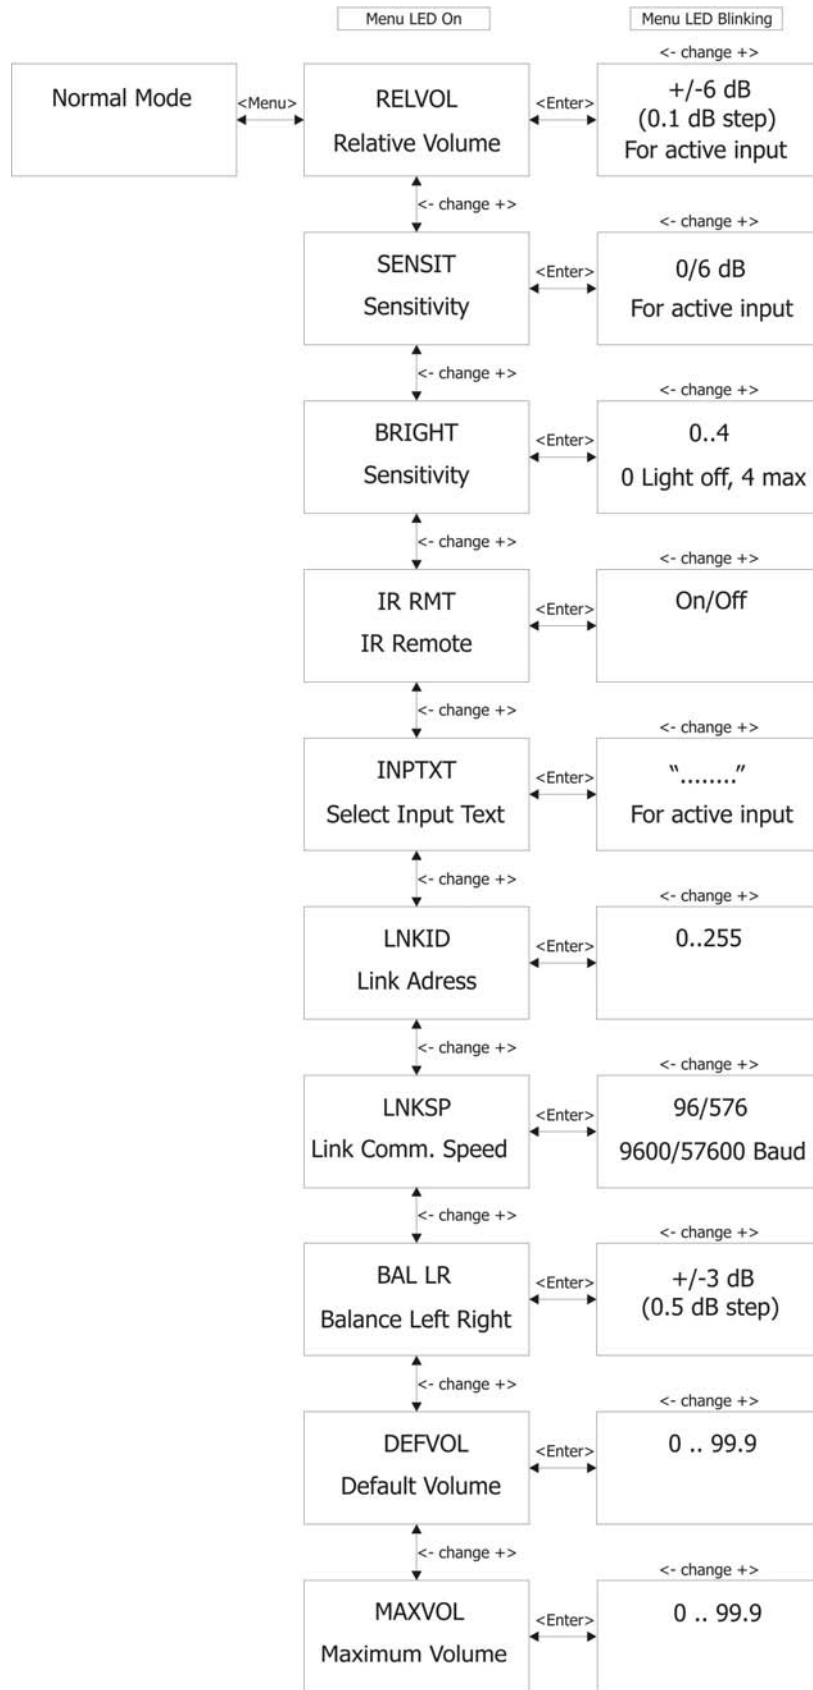

Fig 3: SDAI 2175 Menu system.
The menu system of the SDAI2175 can be entered by pressing the Menu key (3) where after the menu indicator will be illuminated. The volume control keys (12) now changes status from being volume control keys to be sub menu selectors for the menu system. Pressing the keys changes between the different menus seen in fig.3.
The menu system is shown on Fig. 3, and the different sub menus will be explained in the following.
Fig. 3 Illustrating the menu system can be read from left to right, starting in normal mode which can be changed into Menu active mode by pressing the menu key, indicated with <Menu>.